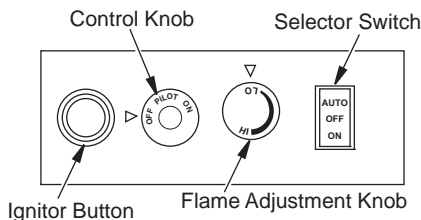

Figure 11 - Control Knob and Ignitor Button Locations
5. Wait five (5) minutes to clear out any gas. Then smell for gas, including near the floor. If you smell gas, STOP! Follow "B" in the safety information, page 10. If you don't smell gas, go to the next step.
6. Press in and turn control knob counterclockwise ↻ to the PILOT position. Press in control knob for five (5) seconds (see Figure 11).